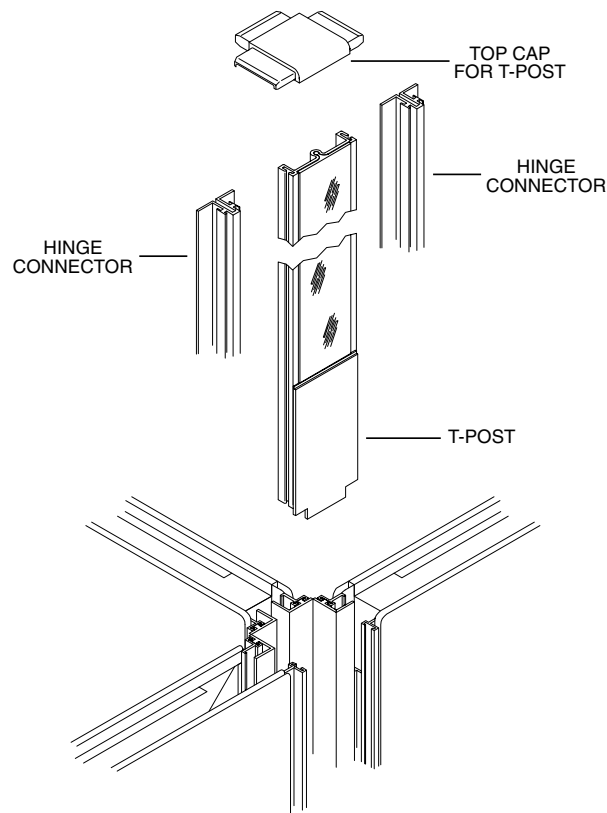

FIG. 1
1. Position T-post and slide hinge connector down into grooves provided in the trim rail and T-post (Figure 1).
2. To attach the end-of-run trim, rest one end of the trim piece on the interlock at the base of the panel. Snap it into place on the trim rail of the panel (Figure 1).